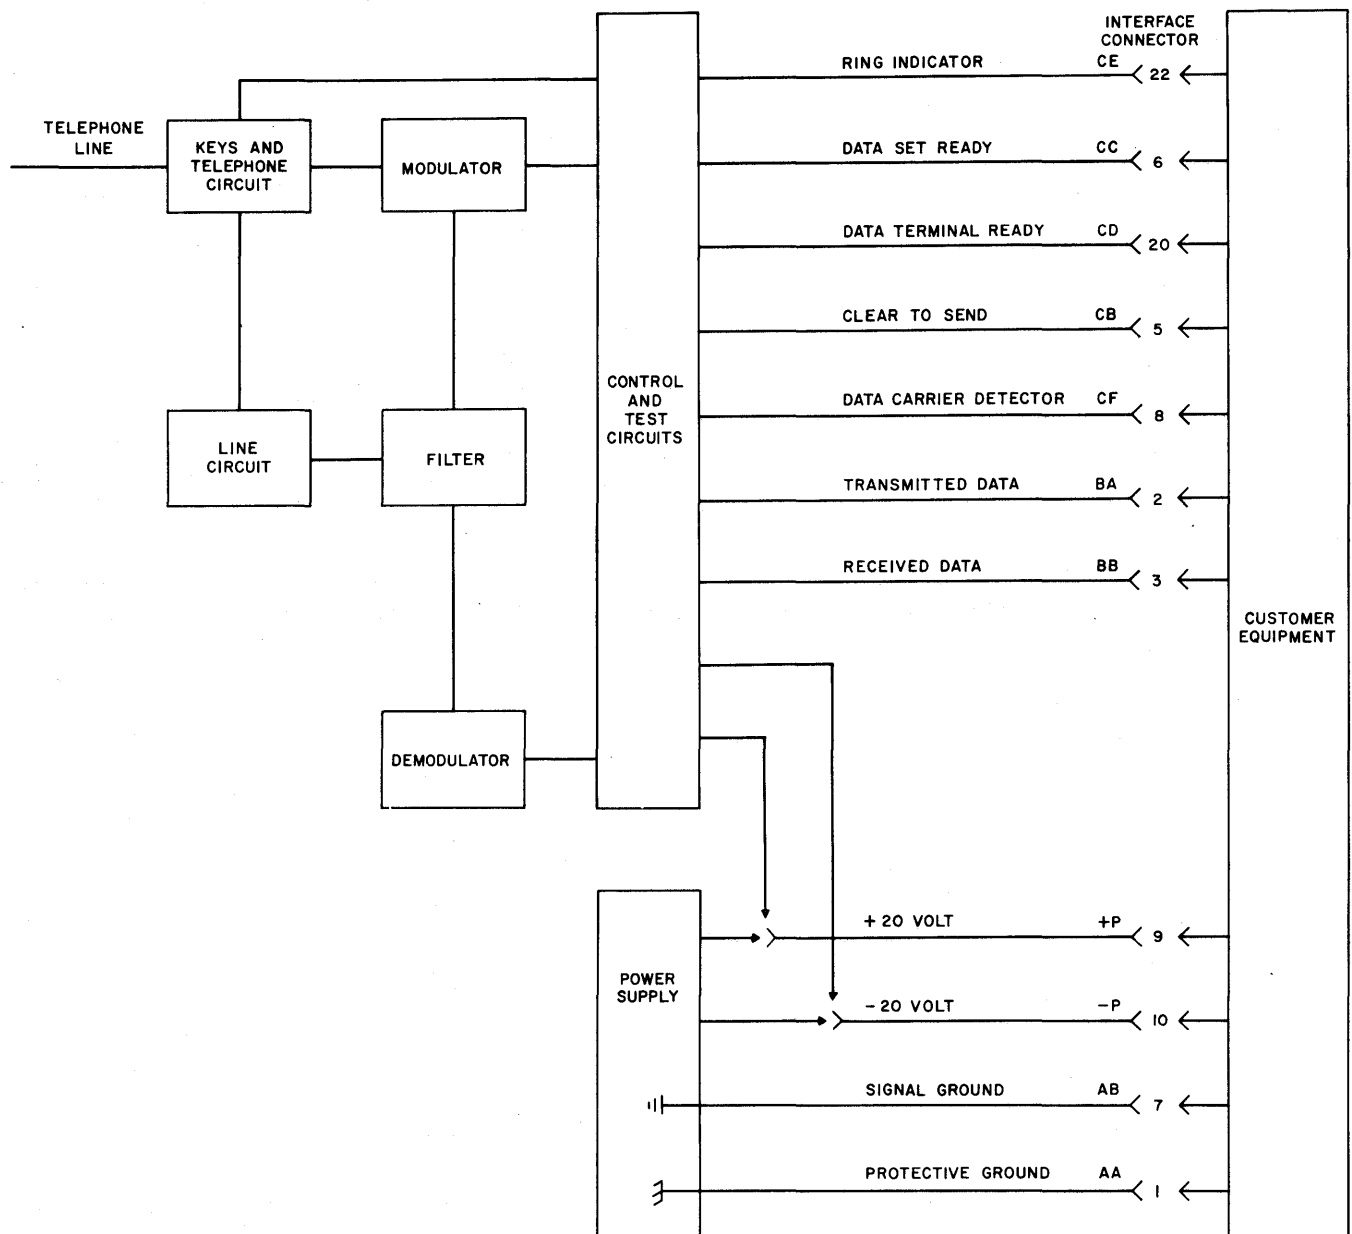

Fig. 5 — Data Set 103A Type, Block Diagram
2.05 A block diagram of the Data Set 103A type is shown in Fig. 5. It illustrates the five basic component sections of the data set which are: